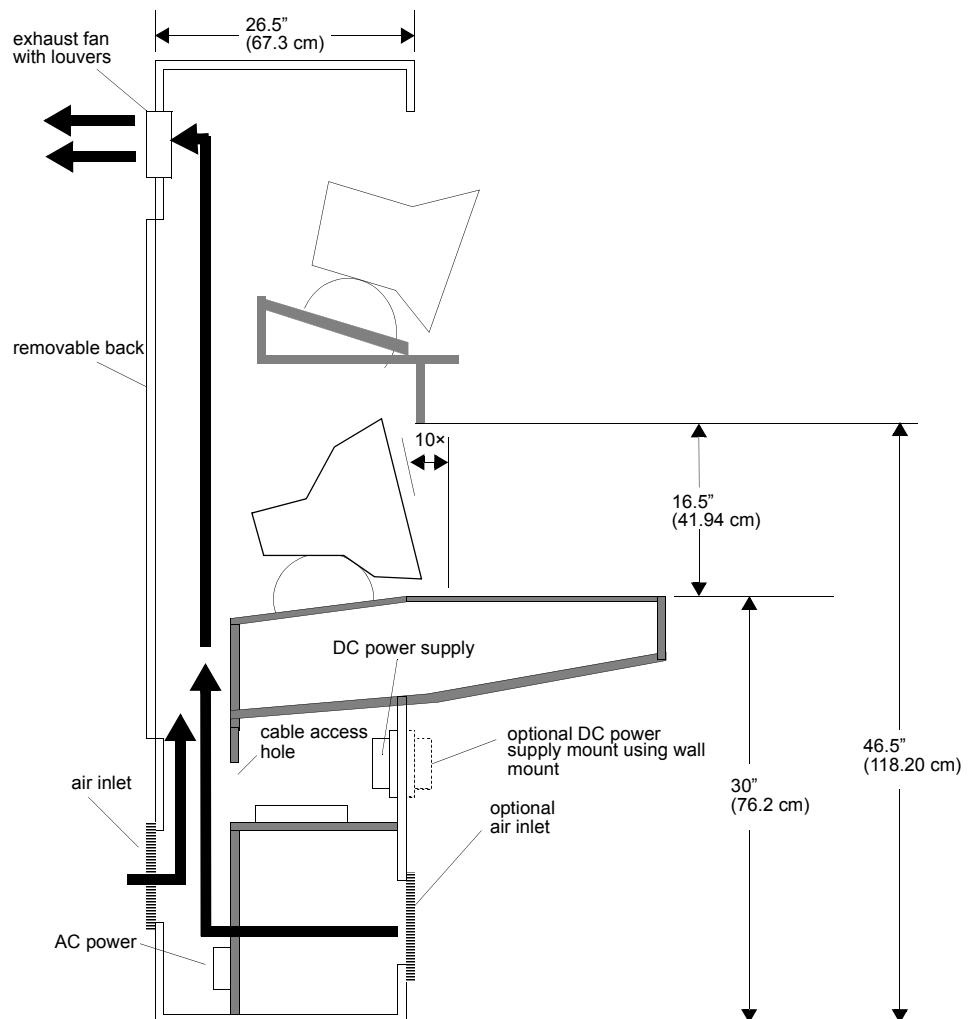

Figure 2-4: Minimum cavity sizes for console setup
An example console design is shown in *Figure 2-4*. This figure shows the minimum dimensions required to satisfy the above requirements.
- *The dimensions shown in Figure 2-4 may not allow for appropriate clearance of displays larger than 15 inches.*